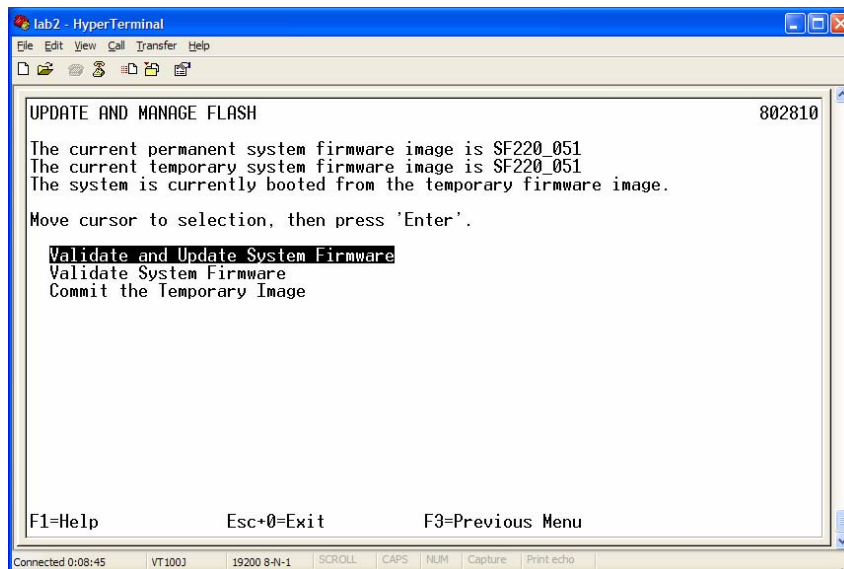

Figure 20. Selecting Validate and Update System Firmware
12. Put the firmware SF235_185 (or higher level) CD in the CD drive. When you see the screen shown in Figure 20, select **Validate and Update System Firmware**.